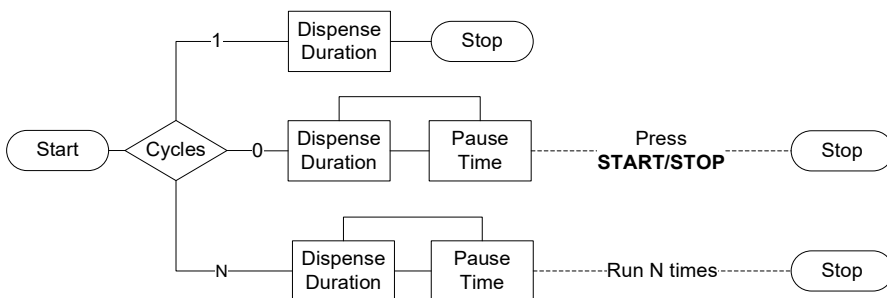

Figure 17. Dispense Cycle Setting
- 5. Cycles: Number of cycles for dispense mode. The range is 0-999 cycles. When it is set to 0, the dispensing process will keep running until START/STOP is pressed. When it is set to the other value, the pump will stop when the set number of dispensing cycles are completed (*Figure 17*).